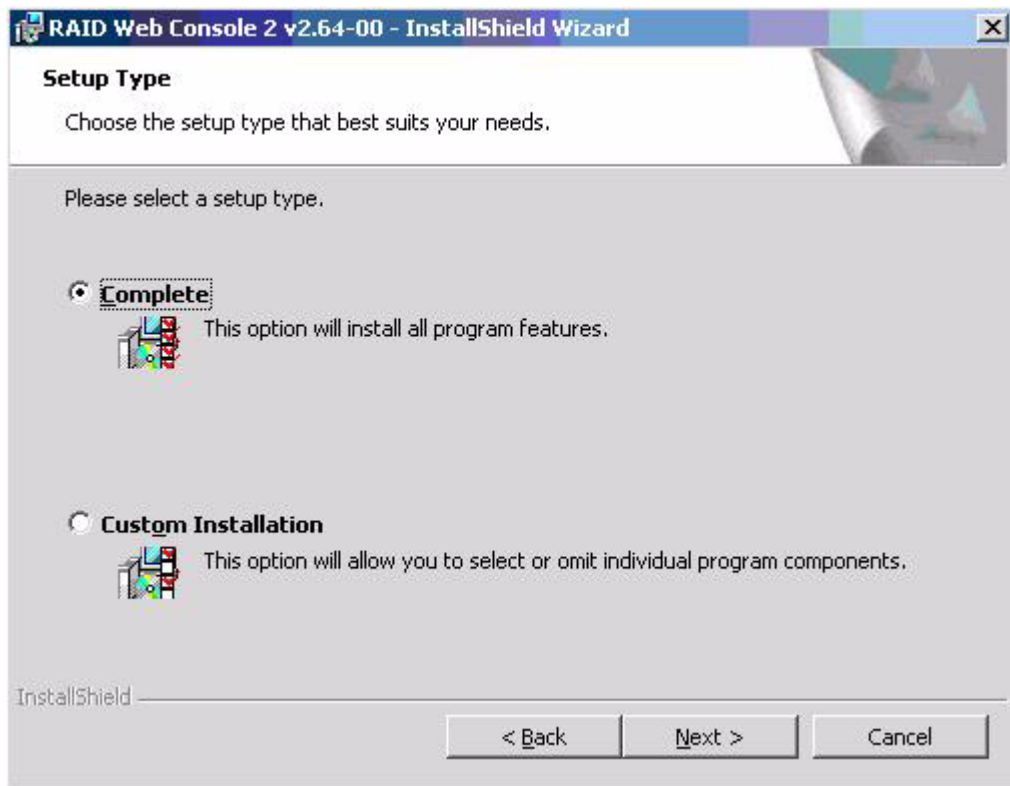

Figure 34. Setup Type Screen
6. Accept the default Destination Folder, or click **Change** to select a different destination folder. Click **Next** to continue. The Setup Type screen is displayed, as shown in Figure 34.